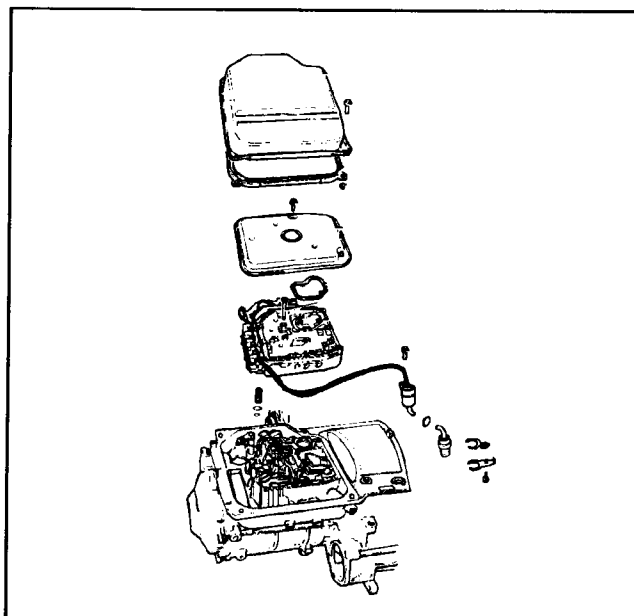

Figure 50
2. Remove the four 13mm bolts for the transmission pan and remove the pan, gasket and the gasket spacers and set them aside (See Figure 50).
3. Remove the two 10mm bolts that hold the filter to the valvebody then set the bolts and filter aside (See Figure 50).
4. There are fourteen #30 Torx head bolts that hold the valve body to the case. There is one 10mm bolt that holds the wire harness at the pass-through connector to the case. There is one 10mm bolt that holds a bracket for the wire harness on the outside of the transmission. Remove these bolts and set them aside. Carefully lift the valve body away from the transmission while sliding the harness through the case. Be careful not to damage the harness connector (See Figure 50).